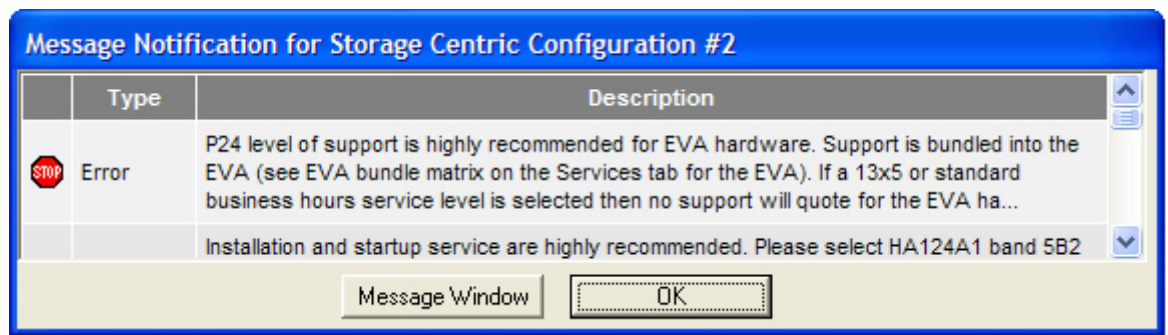

Figure 1: Error message notification
- ▲ **To-Do Messages** - Certain messages are not errors but reminder that there is something left to do on the configuration. For example, this kind of message occurs adding an empty disk array closure to the worksheet but before any disk drives are configured. These are "To Do" messages. On the Tools>Options Error Notification menu, one can set defaults for To Do just like the other Message Types. When the condition causing the To Do message has been met, it will be automatically deleted. See Figure 1 below.